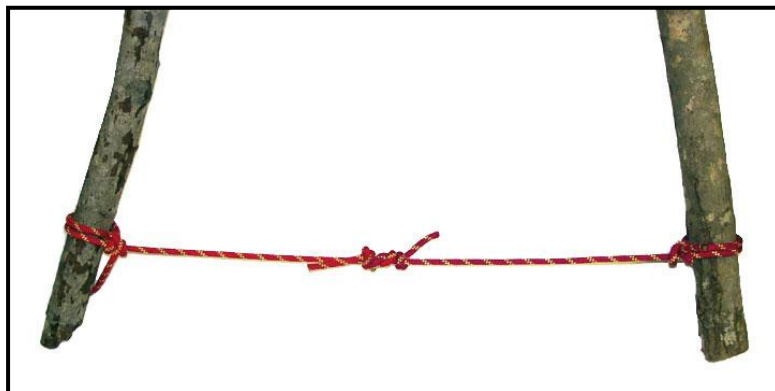

Figure 7-21. A-frame spreader.
(6) Use a spreader rope to prevent the A-frame from collapsing from pressure applied at the apex (Figure 7-21). If the ground is soft, dig the legs in about 6 inches. Tie a sling rope between the legs with a round turn with two half hitches around each leg. Remove all slack in the rope between the legs.
(7) If the ground is a hard surface, tie end-of-the-rope clove hitches with the locking portions facing to the rear, the direction of kick. Tie the tails off at a 45-degree angle with a round turn and two half hitches to a secondary anchor point. The spreader rope should be no more than 6 inches above ground level. The use of clove hitches and half hitches permits easy adjustment of the spreader rope. If more than one sling rope is needed, tie the two ropes together with a square knot and secure with half hitches or overhand knots.